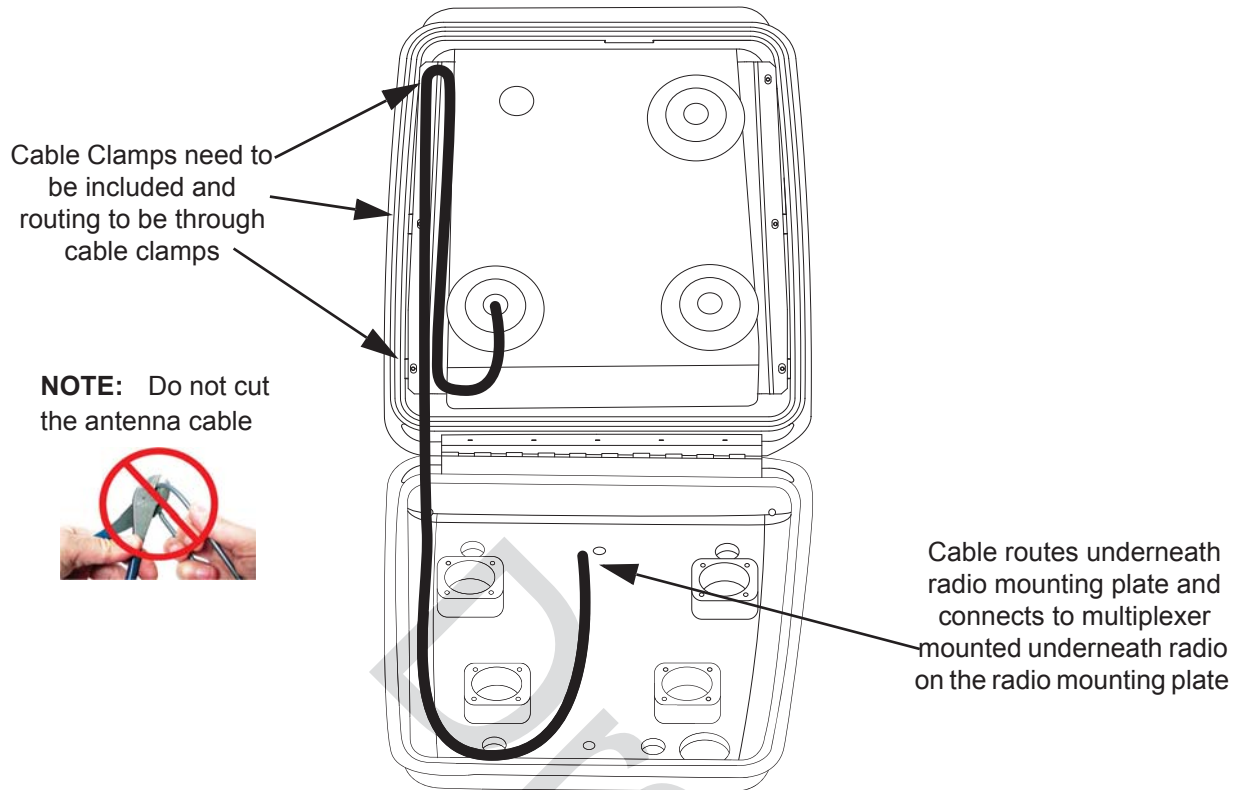
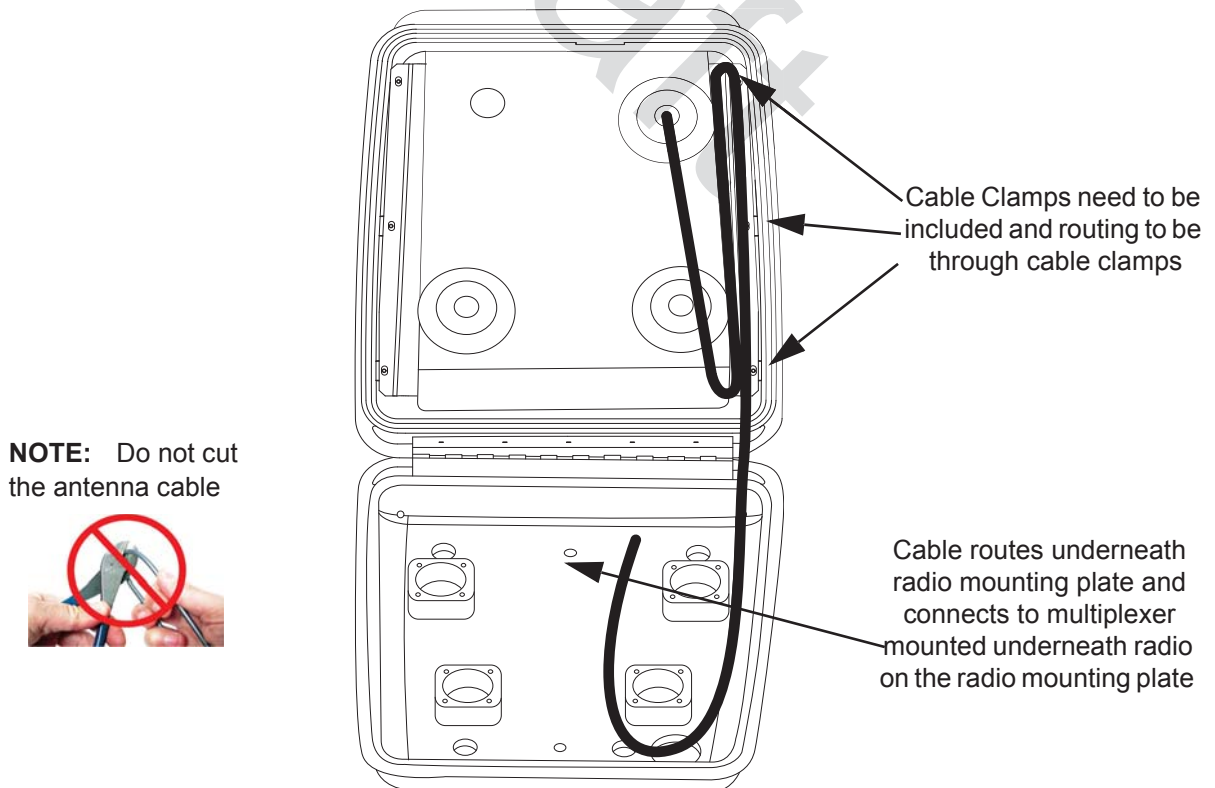

Figure 5-11. Routing the VHF Antenna Cable
Figure 5-12. Routing the 700/800 Antenna Cable
13. Route the coaxial cable for the 700/800, VHF or UHF antenna(s) through the cable clamps per Figure 5-11 for VHF hole, Figure 5-12 for 700/800 hole and Figure 5-13 for UHF hole.